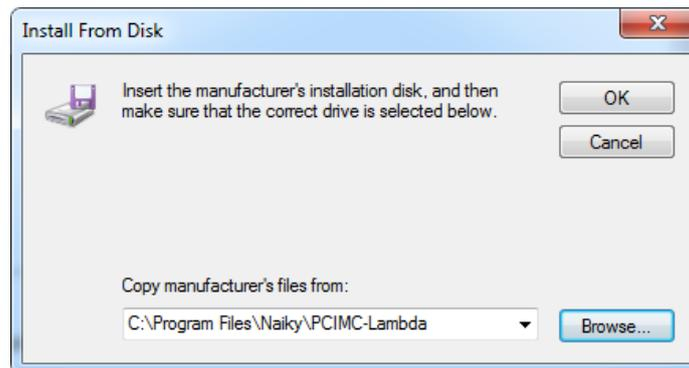

Fig. 1-8 Target File Directory Confirmation
- 6) Then the dialog box “Install From Disk” pops up, showing the directory where the hardware driver is stored, as Fig. 1-8. Click **OK**.